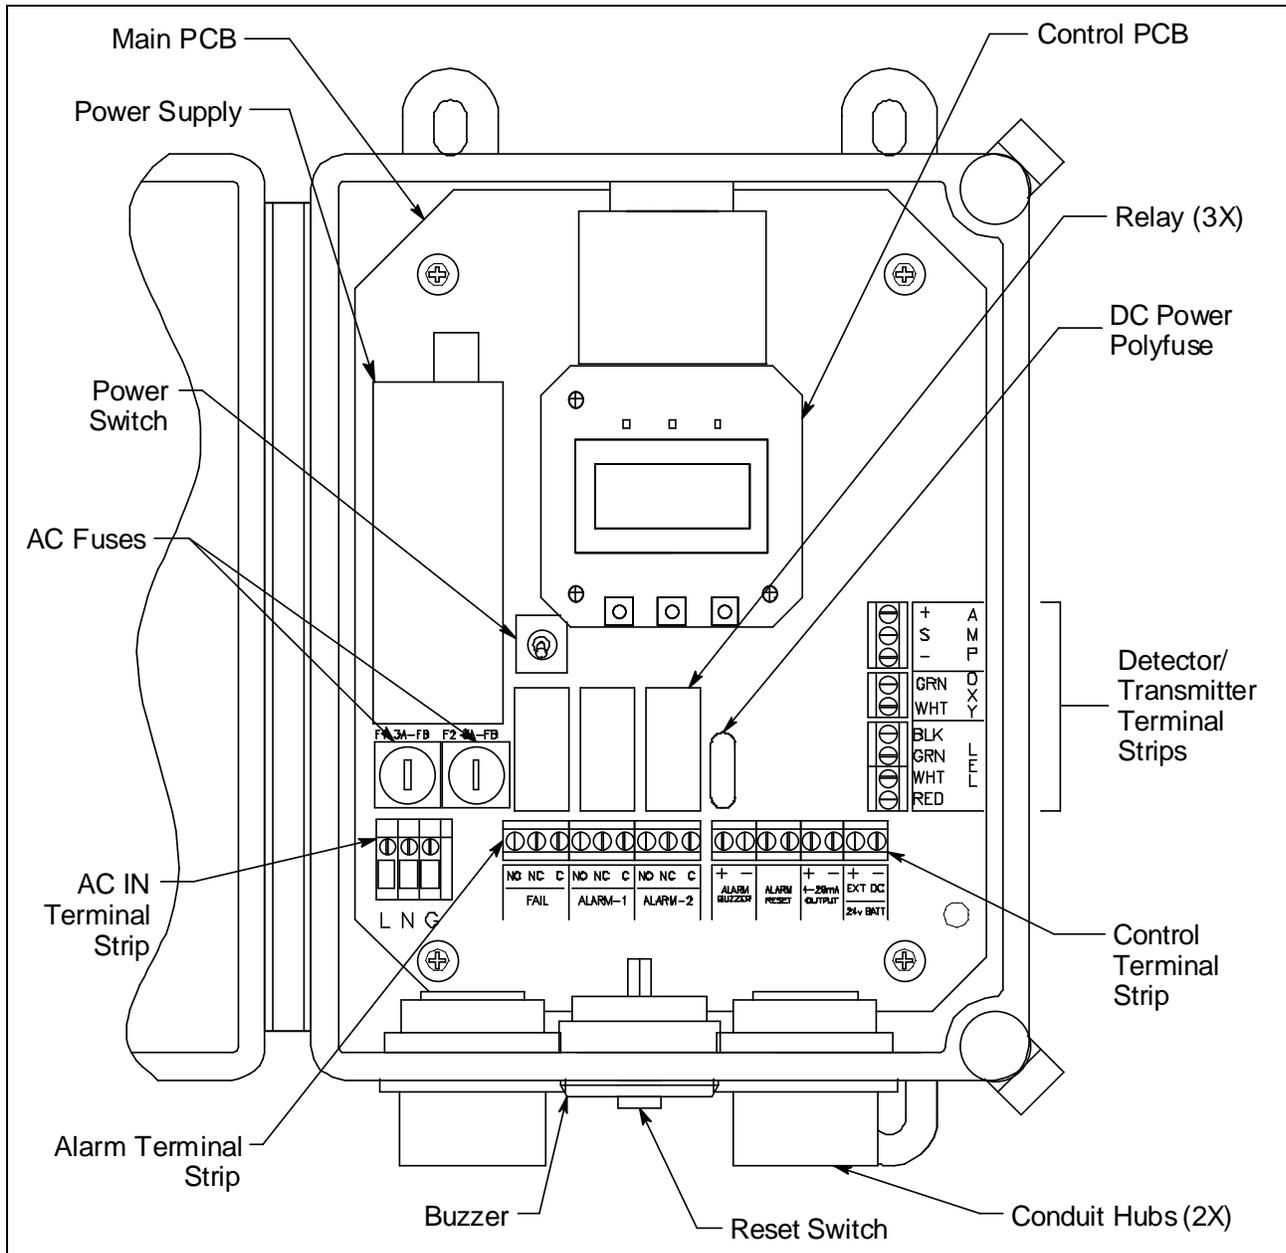

Figure 1: Beacon 110 Component Location
- **Alarm Terminal Strip:** The 9-point alarm terminal strip is located along the bottom edge of the main circuit board to the right of the AC in terminal strip (see Figure 1). It facilitates wiring external alarm devices (horn, strobe, etc.) to the alarm relay contacts and includes common (C), normally closed (NC) and normally open (NO) terminals for fail, alarm 1, and alarm 2.
- **Controller Terminal Strip:** The 8-point controller terminal strip is located along the bottom edge of the main circuit board to the right of the alarm terminal strip (see Figure 1). The controller terminal strip facilitates various internal and external wiring connections. Table 3 lists the function of each terminal.
- **Detector/Transmitter Terminal Strips.** Three adjacent terminal strips are located along the right side of the main circuit board above the controller terminal strip (see Figure 1). These three terminal strips facilitate wiring connections to a detector or a 4 - 20 mA transmitter. The lower 4-point terminal strip is labeled **LEL** and is used to wire a combustible detector. The middle 2-point terminal strip is labeled **Oxy** and is used to wire an oxygen detector. The top 3-point terminal strip is labeled **AMP** and is used to wire 4 - 20 mA transmitters or direct connect preamp type detectors. Although terminal strips are present for various types of detectors, only one detector head at a time may be wired to the Beacon 110.
The power switch is located to the right of the power supply and above the relays (see Figure 1 on page 8). The power switch turns the incoming AC power source on and off at the Beacon 110. When the switch is up, the power switch is on.
The Beacon 110 includes three active status LEDs that are located above the display (see Figure 1 on page 8). Two LEDs, labeled RX and TX, to the right of those described below, are not active.